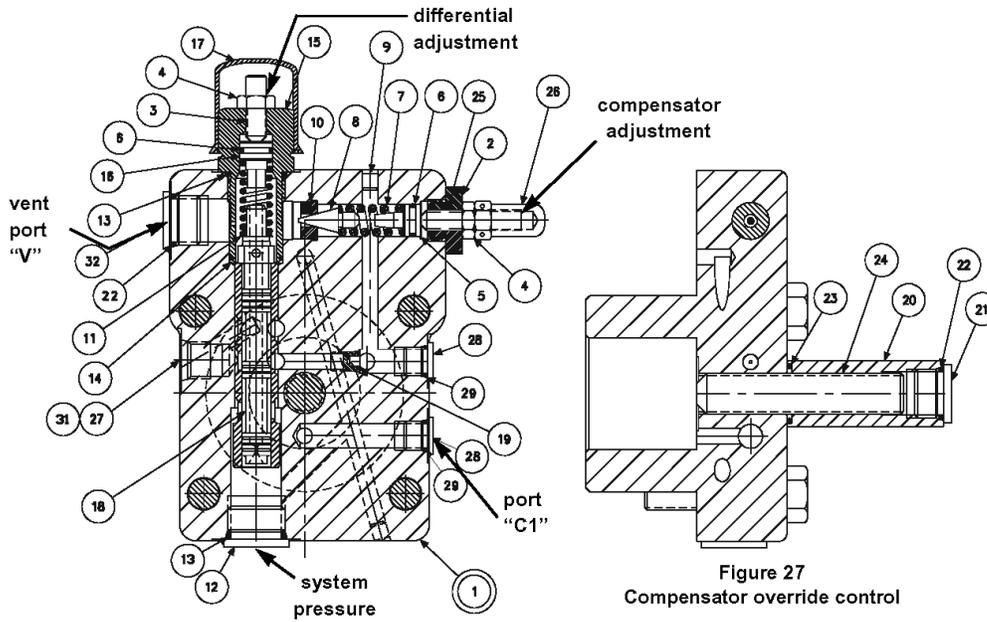

Figure 27
**PARTS LIST FOR FIGURE 27**
1. See Figure 27. Remove tube line to cap.
2. Remove maximum volume stop assembly (items 20, 21, 22, 23, 24).
4. Remove plug (15) and attached parts. Remove spring (11) and spool (18).
5. Remove adjusting plug (2) and attached parts. Remove seal piston (5). Note: a 10-24 screw may be attached to assist in pulling the piston. Remove spring (7) and cone (8).
6. Do not remove sleeve in body (1). Sleeve is pressed into cap and finished to size. If sleeve, snout or cap is worn, replace the cap-sleeve assembly (1).
7. Examine seat (10) for wear. Do not remove unless damaged.
Ref. Figure 27